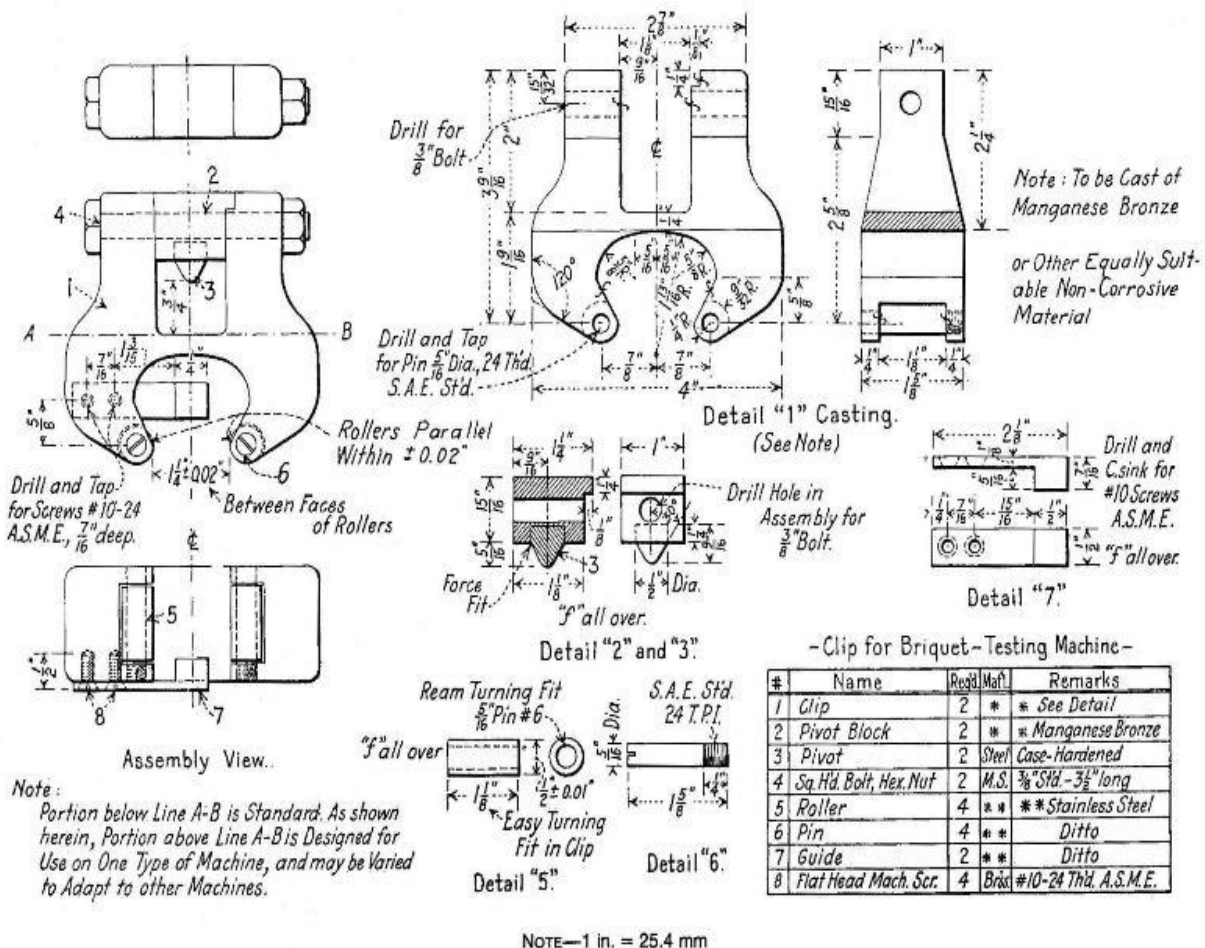

Figure 1 —Grips for Constant Rate of Crosshead Movement Testing Machine
- 5.1.1 *Testing machine*, capable of maintaining a constant rate of travel of 0.05 in./min. (1.3 mm/min.) and applying a tensile force of at least 500 lbf. (2.2 kN). Use grips as shown in Figure 1 to hold specimens.